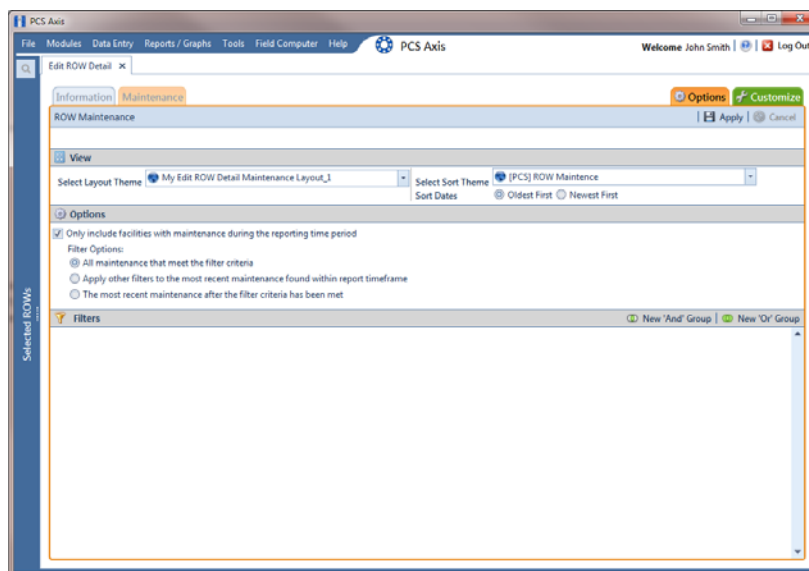

Figure 3-36. Options/Maintenance Grid
- 2 Click the **Maintenance** tab , then the **Options** tab  to open the *Options* page (Figure 3-36).